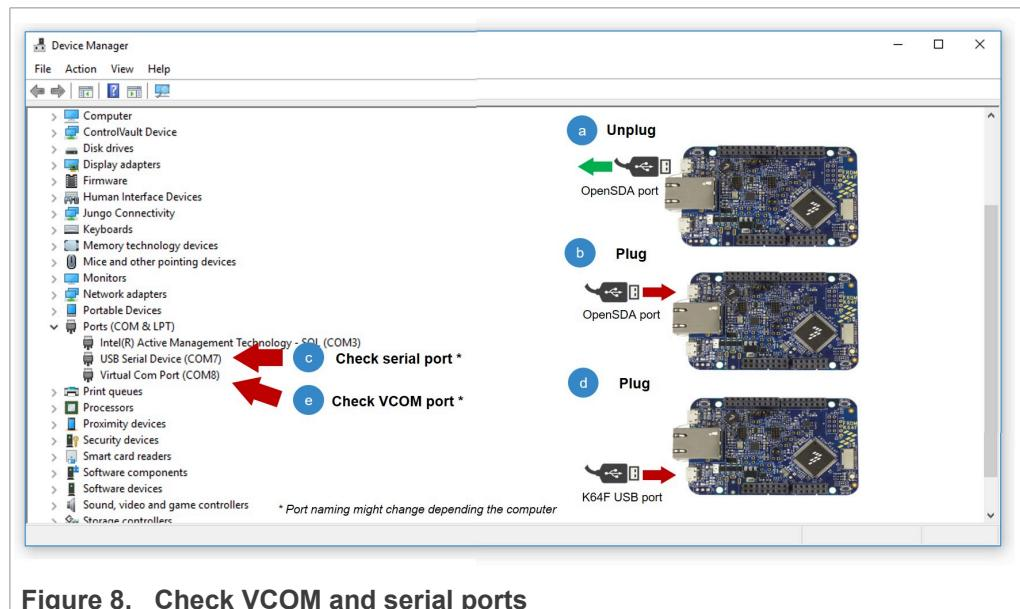

Figure 8. Check VCOM and serial ports
5. The serial and VCOM ports should be recognized by your Device Manager. To check that the ports are recognized, follow the steps indicated in Figure 8:
1. Connect the FRDM-K64F board to your laptop as shown in Figure 14. Check that your Windows Device Manager recognizes FRDM-K64F board as shown in Figure 8. Refer to Figure 1 for OM-SE050ARD jumper configuration.